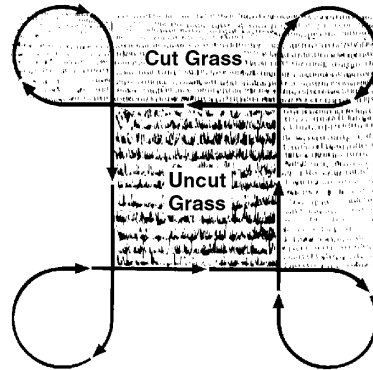

Figure 53
4. Follow the mowing pattern shown in Figure 53.